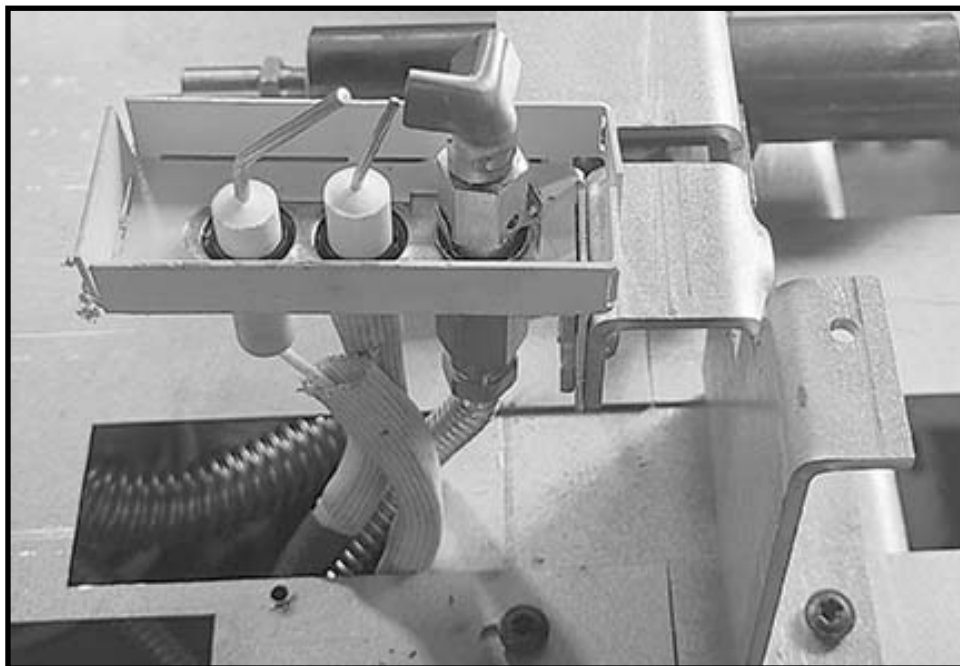

Figure 7: Securing pilot assembly to center leg.
6. Secure the pilot assembly, with the pilot shielded, to the center leg as shown in Figure 7. Use two Robertson screws supplied with kit.